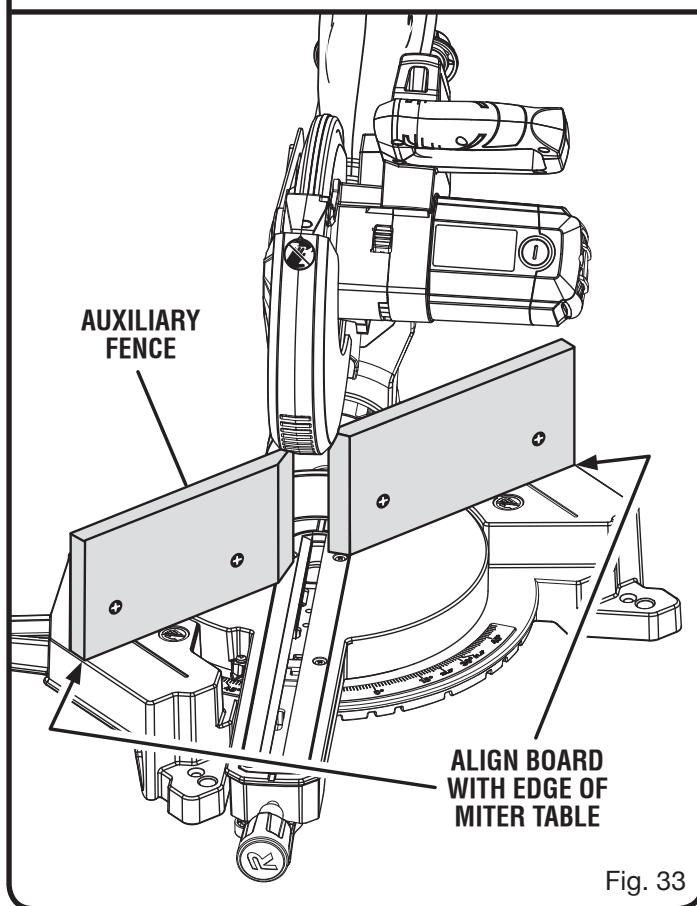

Fig. 33
See *Figure 33*.
- Assemble and attach auxiliary fence as shown in figure 33.